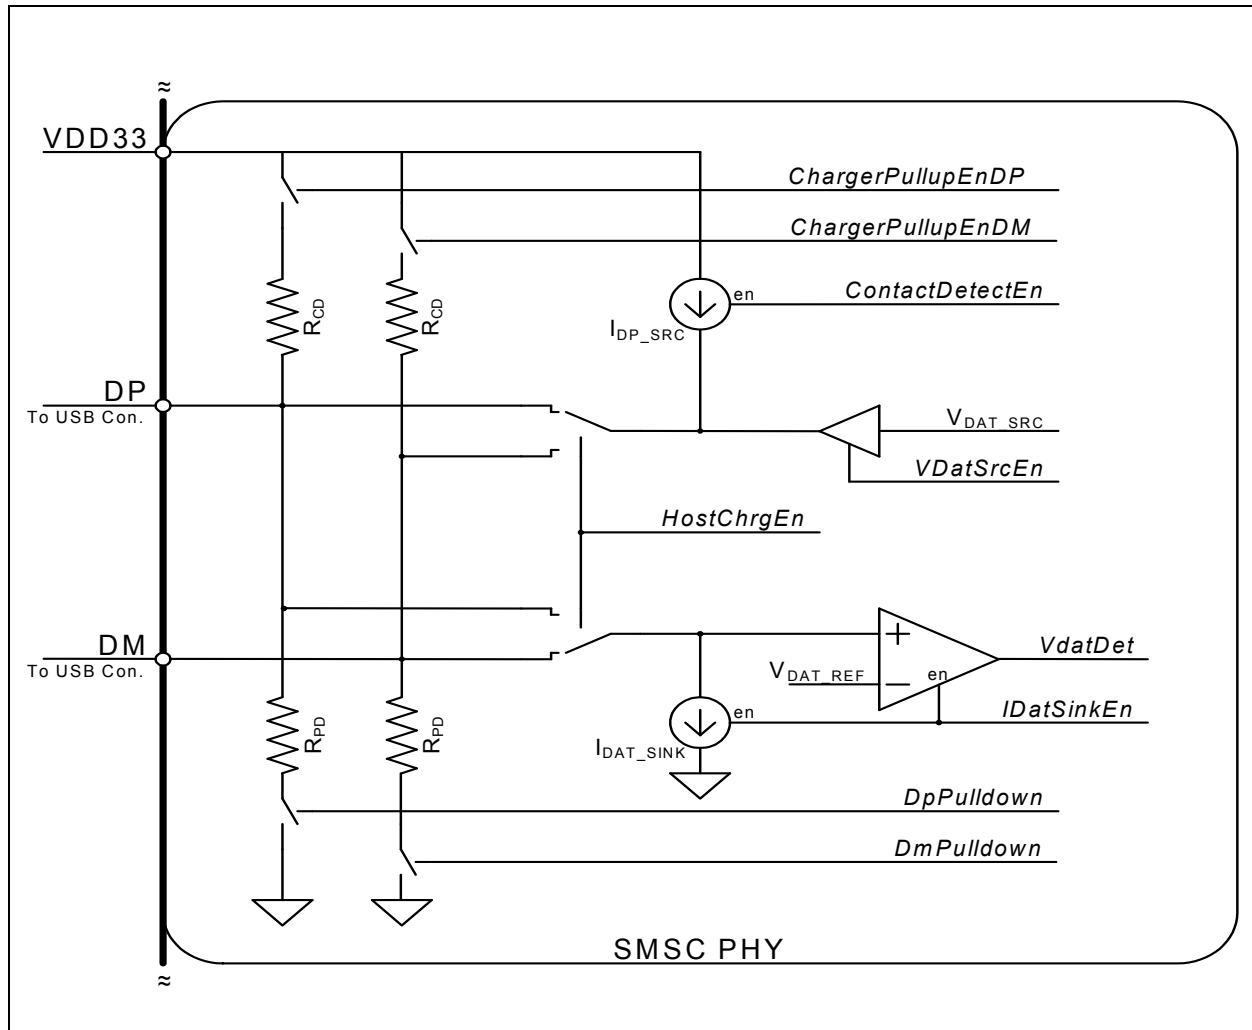

Figure 5.7 USB Charger Detection Block Diagram
**Note:** The *italic names* in the Figure 5.7 correspond to bits in the ULPI register set.
The charger detection circuitry is shown in Figure 5.7.